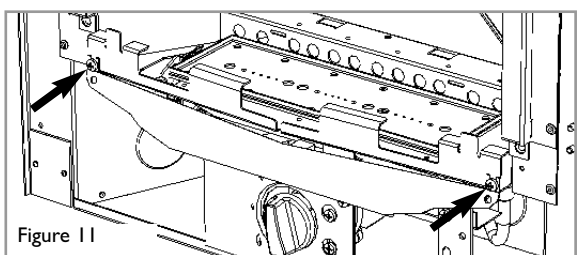

Figure 11
1	Deflector baffle/burner heatshield (shown in fig.11)
**All models :** Connect the gas supply and tighten the gas connections. Fit the deflector baffle to the two locations on the front face of the firetray as shown in figure 11. Screws are provided for this purpose. The baffle should be level with the lower edge of the tray. Place contemporary firefront in front of the fire temporarily to check the angle of the baffle. The front should fit well and the control devices beneath should not be visible to the eye. Realign the baffle slightly if necessary to achieve the correct fit.